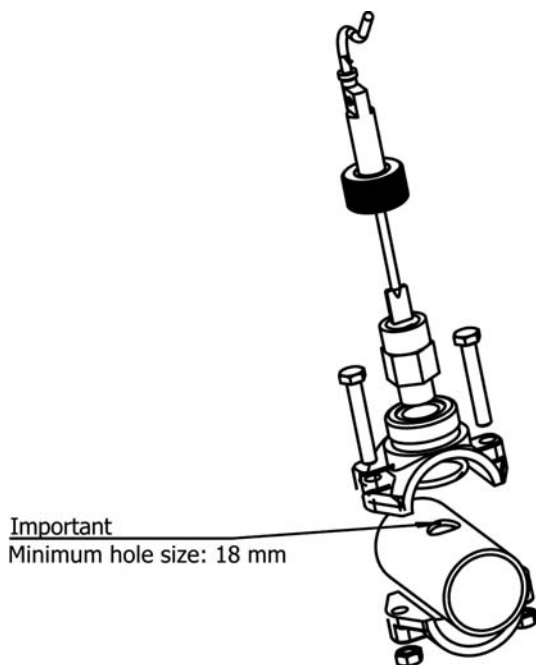

Fig. 14-1
1. Install the saddle supplied in a section of the pipe at the entrance to the electrolysis cell. It should always be installed in a horizontal position relative to the ground (see Fig. 14-1).
2. Install the flow detector (flow switch) vertically in the saddle (Fig. 14-1).